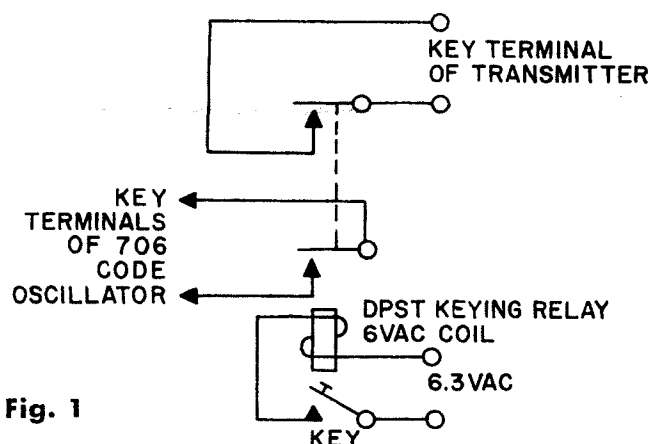

Fig. 1
pole, single throw keying relay (Advance GHA/2C/6VA or equivalent) is required for this application and the hook-up is shown in Figure 1 above.
- () 1. Fig. 1. Mount the speaker SP1 as shown. Place the speaker grill screen between the speaker and the panel. Mount the chassis directly behind the speaker. Use four 6-32 x 3/8 screws, one #6 ground lug, three #6 lockwashers and four #6-32 hex nuts.
- () 2. Fig. 1. On the chassis, mount socket XQ1. Use two #2 P. K. self-tapping screws.
- () 3. Fig. 1. Mount four post terminal strip with ground (TB1) using one #6-32 x 1/4 screw, one #6 lockwasher and one #6-32 hex nut.
- () 4. Fig. 1. Mount transformer T1 with the three leads towards the speaker. Use two #4-40 x 1/4 screws, two #4 lockwashers and two #4-40 hex nuts.
- () 5. Fig. 1. Mount switch S1 as shown using two #4-40 x 1/4 screws, two #4 lockwashers and two #4-40 hex nuts. Note that the slider will be able
- () 6. Fig. 1. Insert jack J1 in panel as shown using one 3/8 lockwasher, one 3/8 flat washer and one 3/8 hex nut.
- () 7. Fig. 1. Insert 3/8 rubber grommet as shown.
- () 8. Fig. 1. Push bulb socket X11 into rubber grommet until socket is flush with front side of grommet. Moisten grommet to ease insertion of socket.
- () 9. Fig. 1. Mount the screw terminal board TB2, as shown. Use two #4-40 screws, two #4 lockwashers and two #4-40 hex nuts. Under one hex nut (near lug 1) on TB2 mount TB3, as shown.
- () 10. Fig. 1. Mount the 1K pot. R2, as shown. Use one 3/8 lockwasher inside the panel and one 3/8 flat washer and 3/8 nut on the outside of the panel.